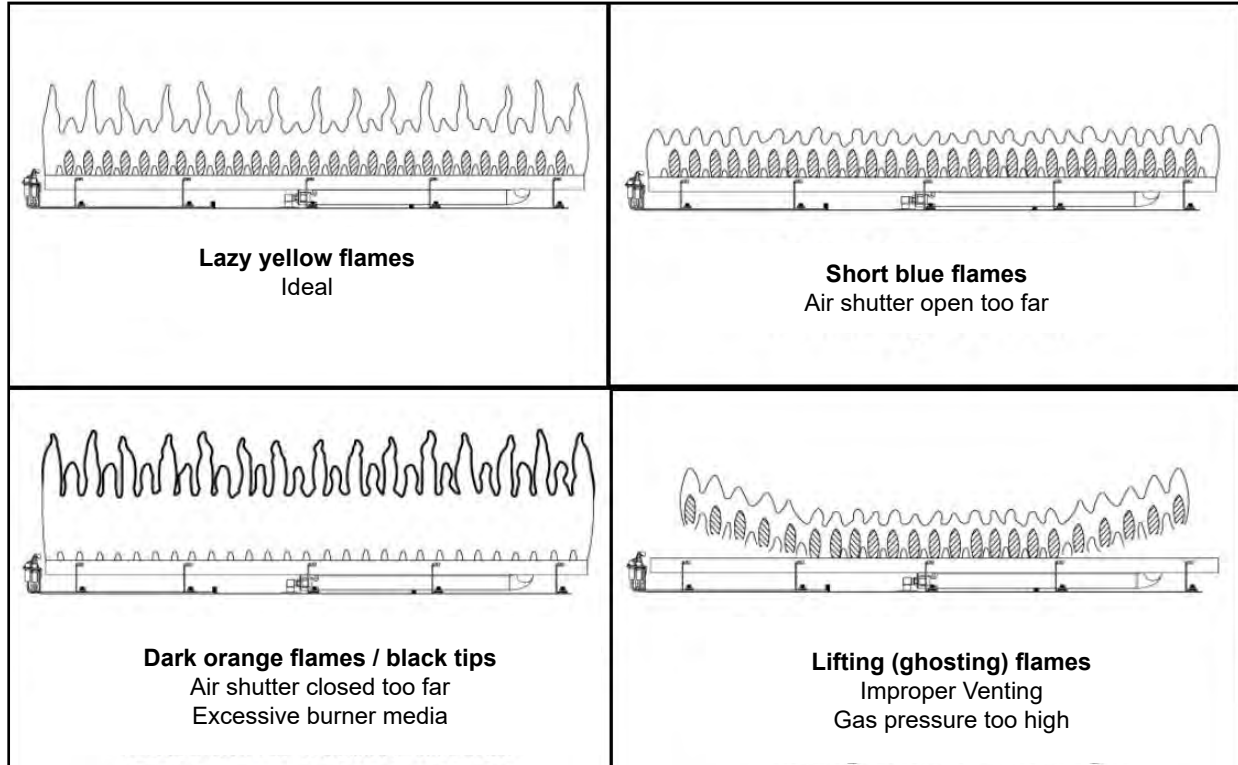
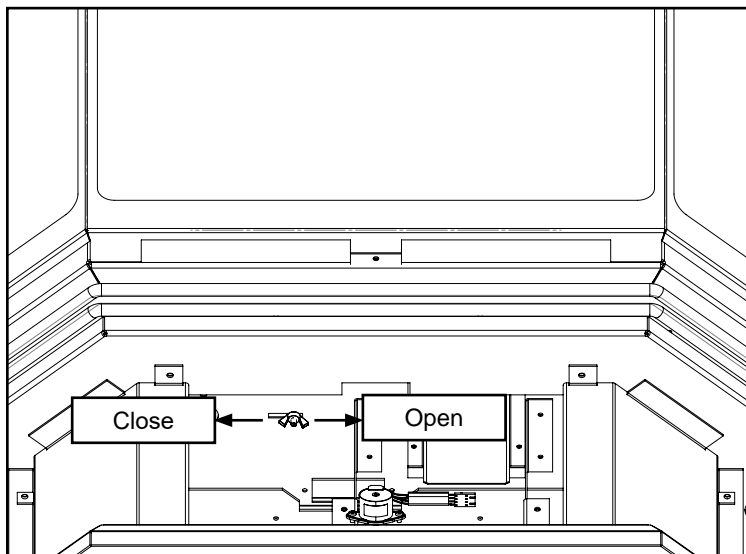

Figure 18.5.01:
Figure 18.5.02: Air Shutter Adjustment Wingnut (as viewed from underneath the firebox).
- Inspect and ensure the lighting of the main burner occurs within 4 seconds of the main gas valve opening. Flames should match those shown in **Figure 18.5.01**.
The 45-DVFE28LN-1 includes an air shutter located under the door of the fireplace which may be used to adjust the primary air to achieve the ideal flame as shown in **Figure 18.5.01**. To adjust, loosen the wing nut on the air shutter and adjust as shown in **Figure 18.5.02**. To open the air shutter and increase air flow to the burner, slide the air shutter to the left. To close the air shutter and decrease air flow to the burner, slide the air shutter to the right.